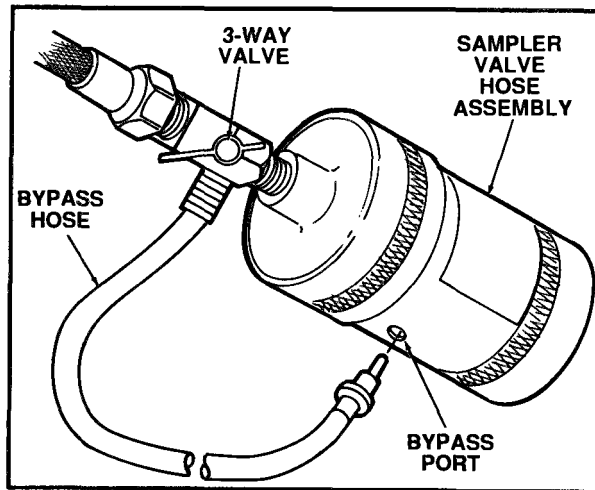

Figure 2.31 Attaching the Remote Sampling Cap and Bypass Hose
- b. Force the nylon plug into the port located on the side of the sampler base (Figure 2.31).